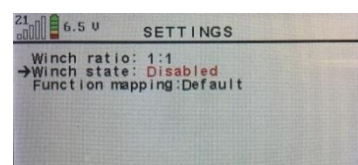

Figure: 43
- Deactivate the winch by setting the **Winch state** to **Disabled** in the remote control menu (see figure 43).